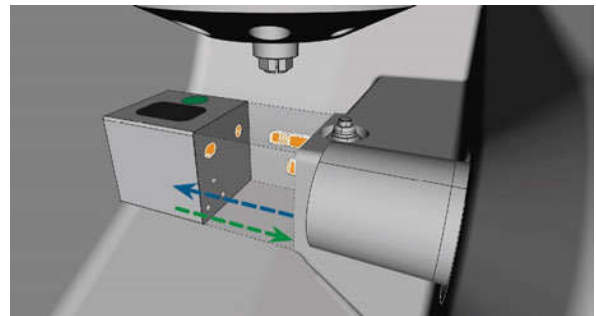

FIG. 46 – EXCHANGING THE TOOL MAGAZINE (TOOL MAGAZINE HOLDER AND HOLES IN THE TOOL MAGAZINE MARKED ORANGE)
3. If an incorrect tool magazine is mounted, remove this magazine by pulling it off the tool magazine holder (↗ Fig. 46 – on the previous page, blue arrow).
6. Plug the tool magazine onto the tool magazine holder (↗ Fig. 46 – on page 43, green arrow):